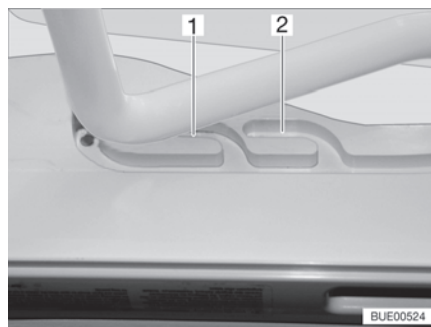
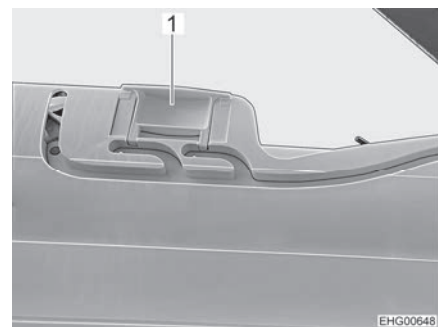

Fig. 55 Guide (ventilation position)
Fig. 56 Lock (ventilation position)
The Heki skylight can be put in two ventilation positions: Bad weather position (Fig. 55,1) and central position (Fig. 55,2). Depending on the model, the skylight can be locked in the central position with both left and right latches (Fig. 56,1) on the skylight frame.
- Push the bar slightly upwards and into the selected guide (Fig. 55,1 or 2) and lock if necessary.